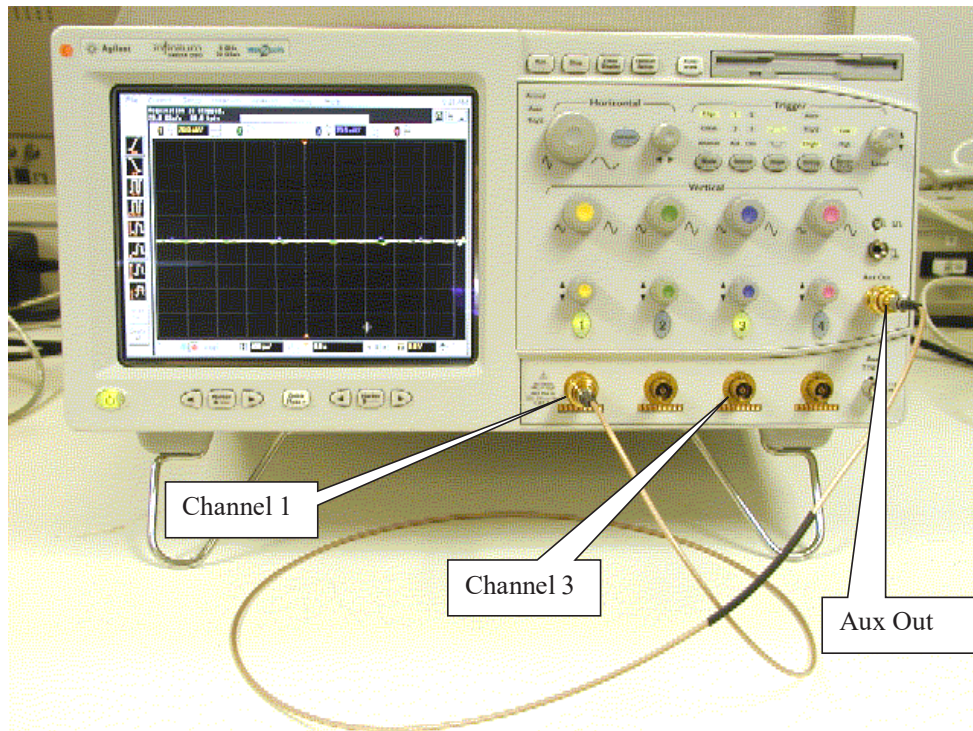

Figure 7 Vertical Input Calibration Connections (Cable on Channel 3 not shown).
- 1 Referring to Figure 7 below, perform the following steps:
- 13 Referring to Figure 7 on page 1214, perform the following steps: